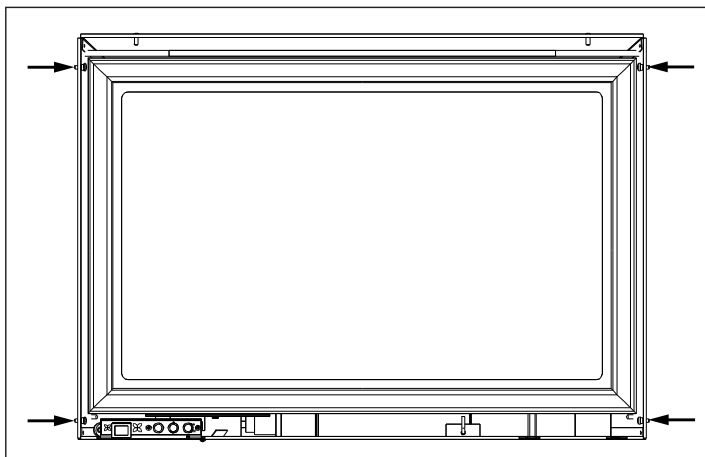

Figure 64: Bushing Locations.
Lift the trim upright in front of the fireplace with the four (4) hooks pointing towards the fireplace. Slide the hooks over their corresponding bushings (see Figures 64 & 65). Ensure the hooks are secure before releasing the trim. The surround should be wiped with a damp cloth periodically.